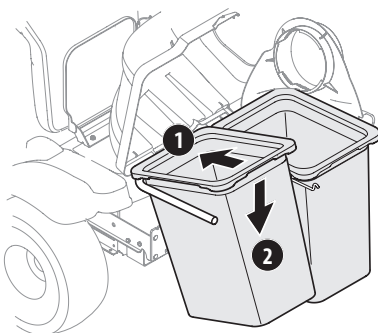

Figure 18
9. Install both grass bag assemblies (664-05104) onto the hanger assembly rail by inserting the front edge in first (1), as shown in Figure 18, and setting the back edge down until it fits into the assembly (2).